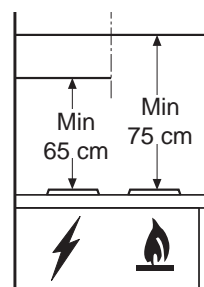

Fig. 3
- When installed, the hood must be not less than 65 cm. above electric burners or 75 cm. above gas or mixed-fuel burners. (Fig. 3).
The hood is to be mounted in a wall cupboard. When installed, the hood must be not less than 65 cm. above electric burners or 75 cm. above gas or mixed-fuel burners. (Fig. 3).